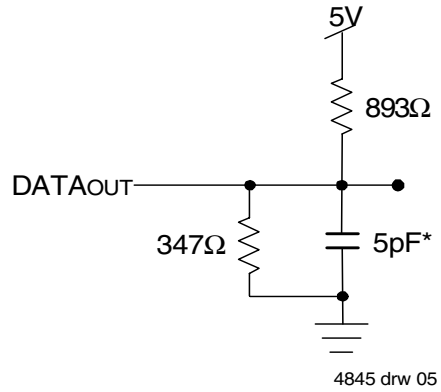

Figure 2. Output Test Load
1. Transition is measured 0mV from Low or High-impedance voltage with the Output Test Load (Figure 2). This parameter is guaranteed by device characterization, but is not production tested.
1. Transition is measured 0mV from Low or High-impedance voltage with the Output Test Load (Figure 2).
- Transition is measured 0mV from Low or High-impedance voltage with the Output Test Load (Figure 2).